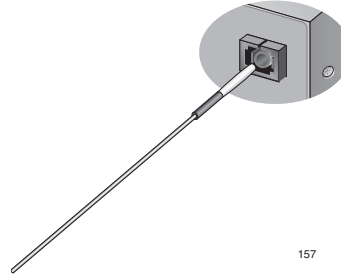

Figure 32. Cleaning a Recessed Ferrule
1. Insert the swab into the adapter as shown in Figure 32. Rub the ferrule tip with the swab.